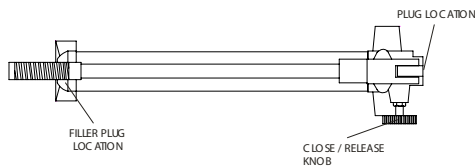

FIGURE 1
1. Remove SHIPPING PLUG from the 3/8" NPT port and discard (refer FIGURE 1). NOTE: THE PLUG IS STRAIGHT THREAD TO PREVENT DISTORTION TO THE 3/8" NPT THREADING.